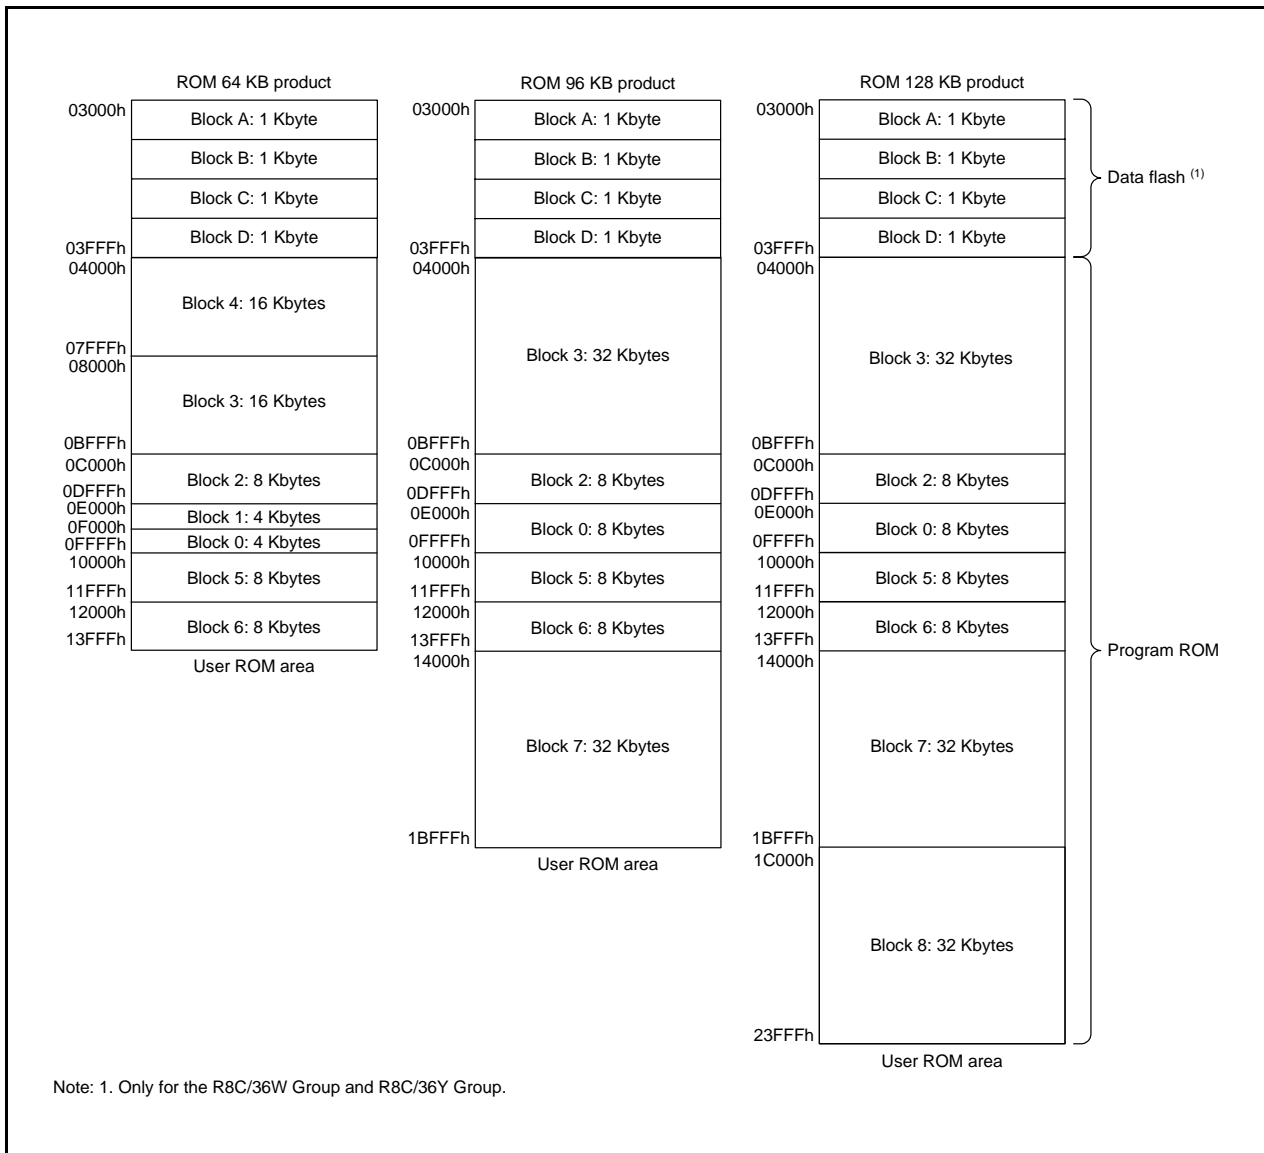

Figure 30.1 Flash Memory Block Diagram of this MCU
- The number of blocks and block division vary with the MCU. Refer to **Figure 30.1 Flash Memory Block Diagram of this MCU** for details.
Figure 30.1 shows the Flash Memory Block Diagram of this MCU.